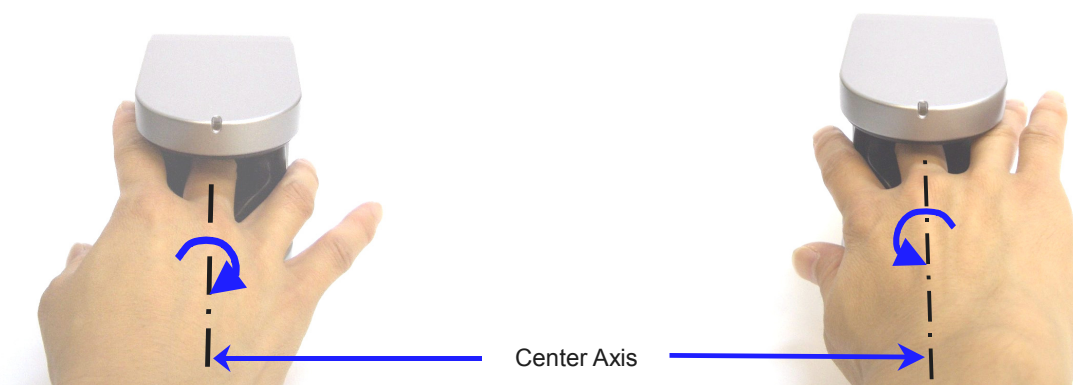

Fig 8 Wrong example (Rotation of finger)
- (2) Finger is rotated. (Fig 8)
- (3) The injury at finger, mud by pen, etc. might cause the enrollment/ authentication unstable.
- (4) Please do not insert the wet finger or with glove.
- (5) Please keep your finger straight when you inserting the finger.
- (6) It is unable to do the authentication at outdoors or under the location with strong light.